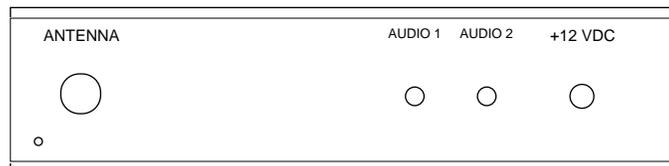

Figure 7. Rear panel
3. Orient the rear panel on a flat surface with the large hole for the antenna connector to the left (Figure 7). The small screw hole should be below and to the left of the antenna connector hole. Peel the rear decal from its backing and apply to the rear panel.